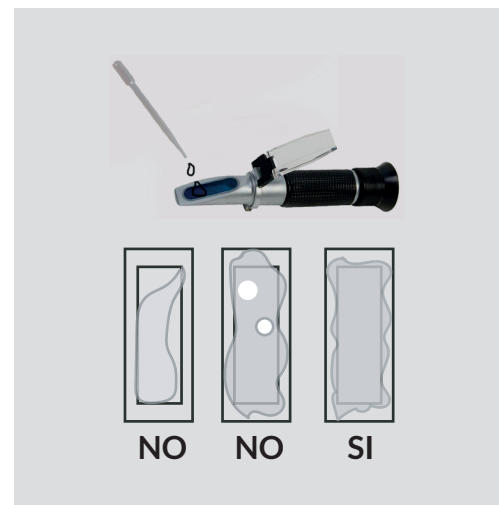

fig. 1
Open the cover plate and place 2/3 drops of distilled water on the main prism. Close the plate so that the liquid disperses over the whole surface of the prism without any air bubbles or dry patches (see fig. 1).
1. Place a few drops of product to be measured, at a temperature of approx. 20°C, on the prism (B), opening the cover plate (A). Close the plate and press down gently so that the mixture disperses evenly, being careful that no air bubbles or dry patches are allowed to form. (fig.1)
2. Point the refractometer towards a light source and look through the eyepiece. Focus the eyepiece using the adjustment ring (E). The top portion of the field is blue, the bottom portion is white. The value on the graduated scale between the 2 blue and white fields is the reading indicating the product's °Brix.